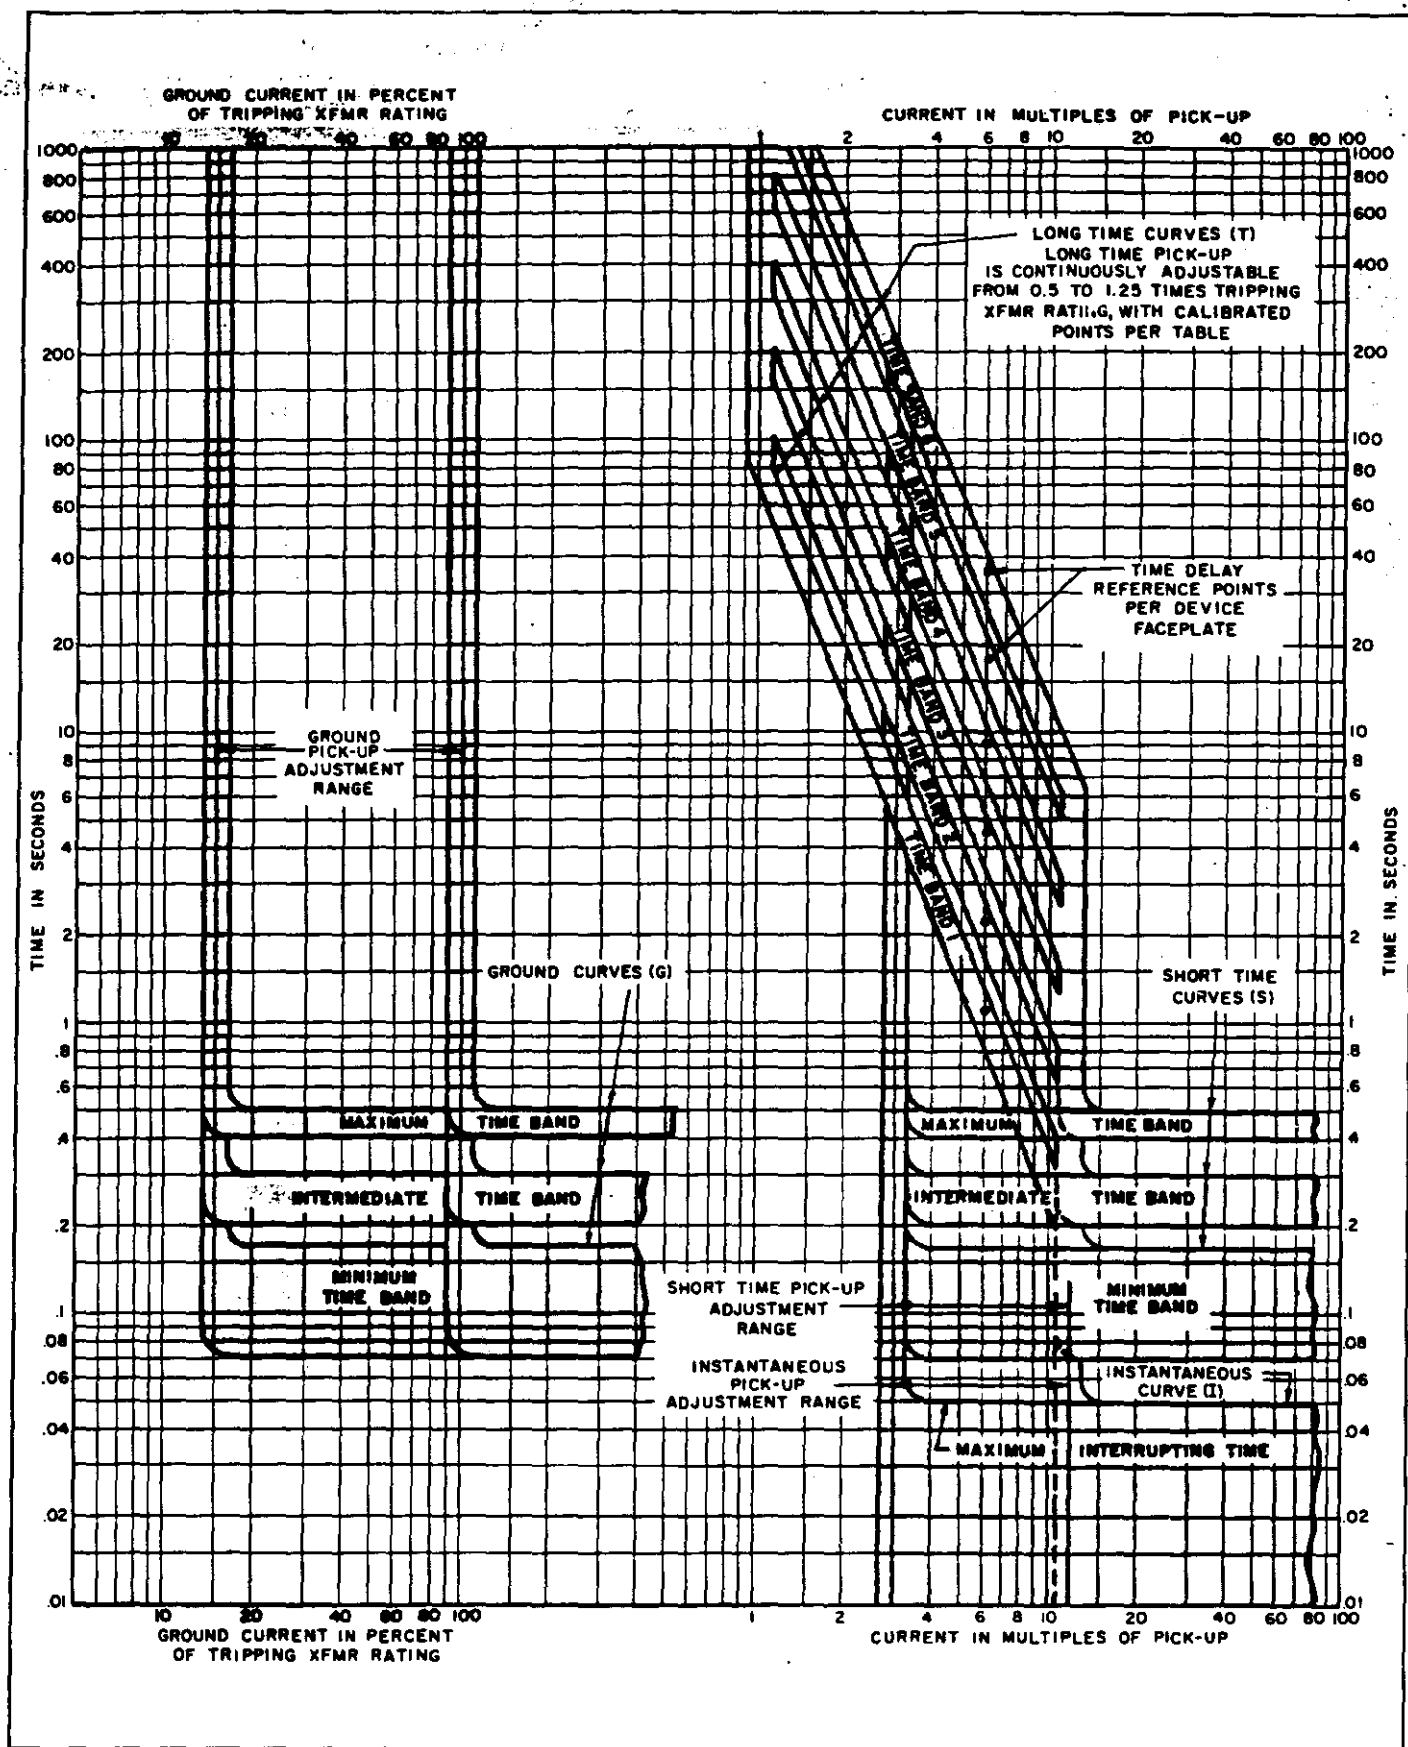

Figure 6. - Time-Current Curves - Static Trip II
7. When the breaker trips, check the operating time against the table on the trip device faceplate and against the curves on FIG. 6. While it may differ some from the exact faceplate value, it should fall within the band on the curve. If not, refer to "Testing the Tripping Actuator."
9. Repeat for other time bands and other values of times pickup current as desired. All points should fall within the bands on FIG. 6. Each time band should have precisely twice the delay of the next lower band.
6. Press the "Start Timing" button. The breaker should trip in 0.4 to 0.5 seconds. See FIGURE 6.
7. Repeat for "Short Time Band" settings of "Intermediate" and "Minimum" and for other values of current and pickup settings if desired. Compare with FIGURE 6. Make current adjustments as quickly as possible to avoid overheating.
6. Press the "Start Timing" button. The breaker should trip in 0.4 to 0.5 seconds. See FIGURE 6. If there is a ground target, the red button should pop out. Reset the target by pushing the button in.